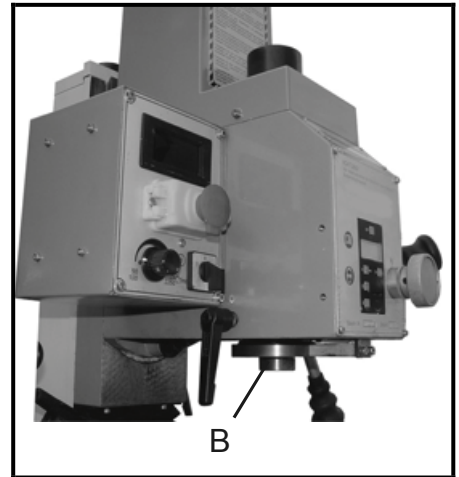
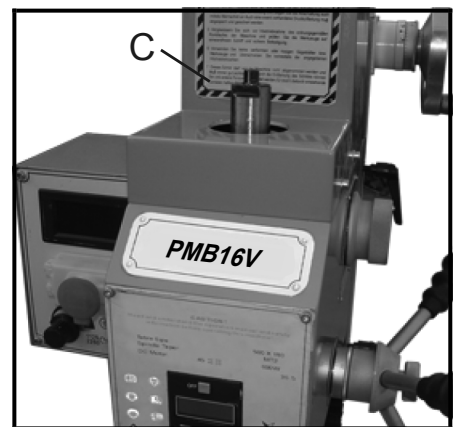

Fig. 15
Fig. 16
3. Hold the flat of spindle (B, Fig.15) to keep it from moving while loosening the drawbar (C, Fig 16) with the 22-25 spanner in toolbox.